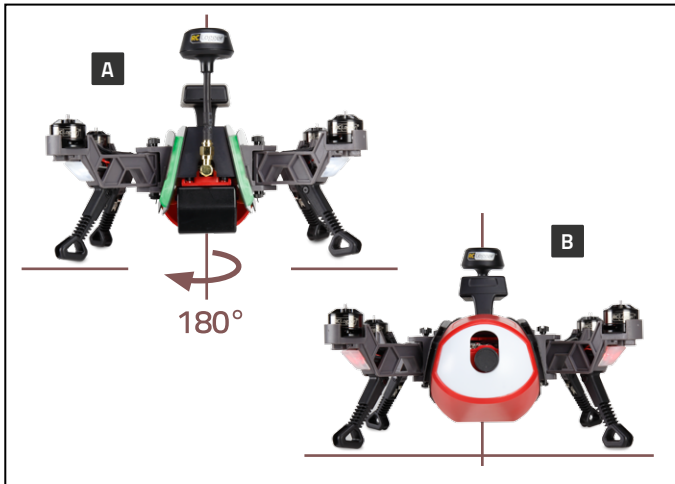

Fig. 10
3. Rotate the Navigator 250 by 180° about its vertical axis. Refer to »Fig. 10, steps A and B.